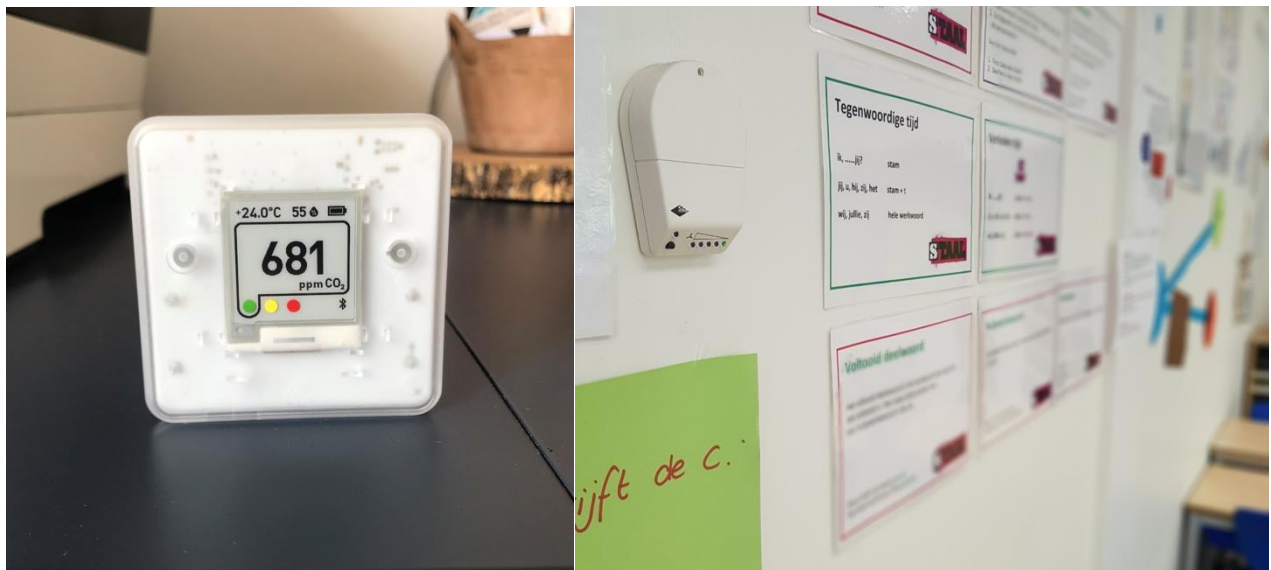

Figure 2. Examples of CO2 monitors with traffic light indicator showing the indoor air quality.
- Install a CO2 monitor with traffic light indication (Figure 2) at least in the classrooms in which ventilation depends on opening windows and/or outdoor grilles. This visualises the need for extra ventilation by opening windows. Make sure that the CO2 monitor is placed at a visible position in the classroom, away from fresh air inlets (e.g. open windows), typically on the internal wall at